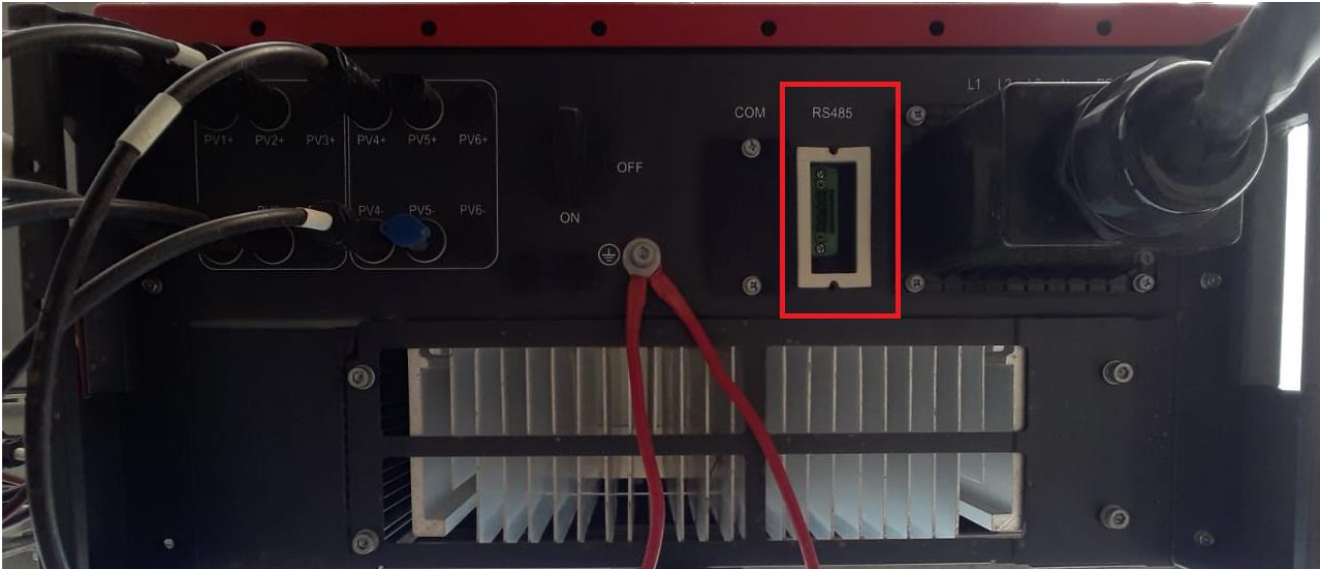

Figure T1 – Thea String Inverter Connections
2. The communication terminals (RS485 A/B) are located at the bottom of the section as shown in Figure T1.